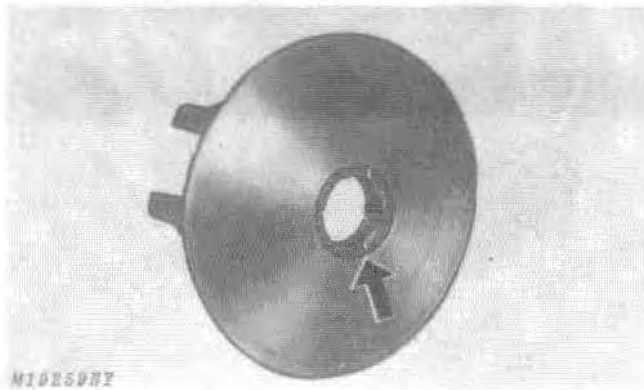

Fig. 9-Cuts in Movable Face Bushing
4. Use a hacksaw blade to carefully cut through the movable face bushing in several places, Fig. 9.